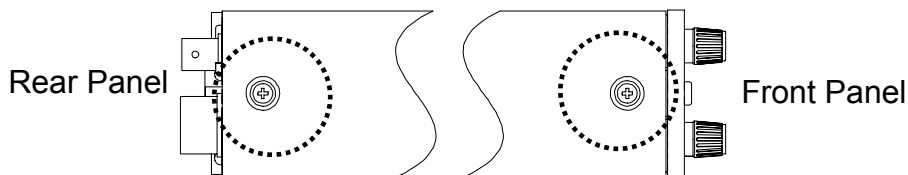

Fig.7-6
2. Remove the cover using two screws (M3) on the top face (Fig.7-6).